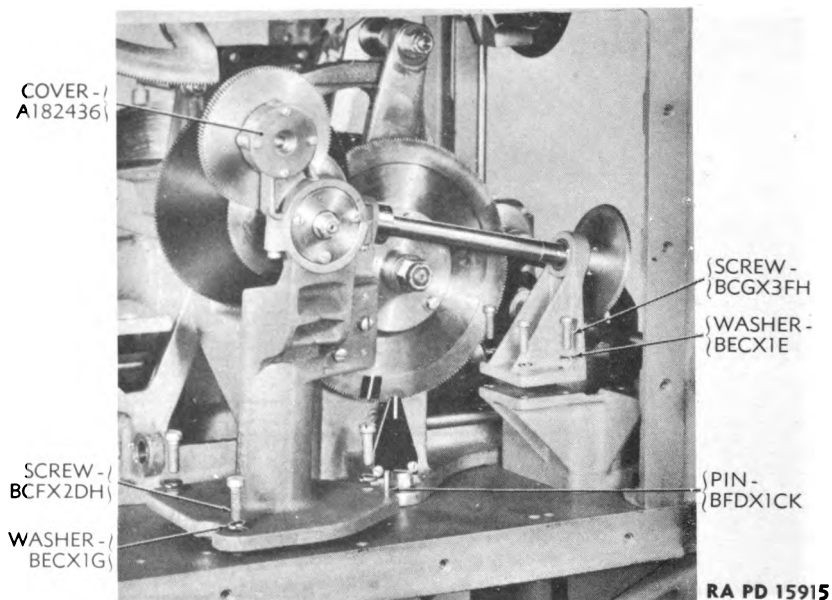

Figure 143 — Removing Quadrant Elevation Mechanism, With Inclined Shaft Attached
b. Remove the four screws which hold the lower bracket of the inclined shaft assembly to the drive shaft assembly (fig. 143). Drive the dowel pin up and remove the three screws which hold the quadrant elevation mechanism in the base; lift up the mechanism, with the inclined shaft, and tilt it forward to clear the gears. If any prying is necessary, be careful not to damage the bottom surface of the casting.